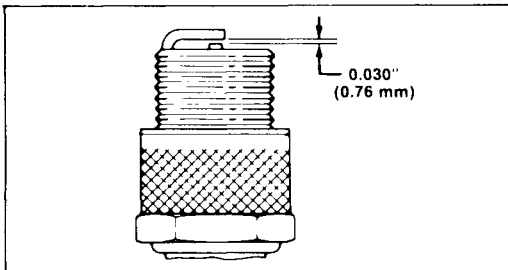

Figure 32
3. Set air gap between electrodes of new spark plug at 0.030 of an inch (0.76 mm), (Fig. 32). Next, install spark plug in cylinder head. Tighten plug to 15 ft-lb (20.4 N·m). If torque wrench is not used, tighten plug firmly.